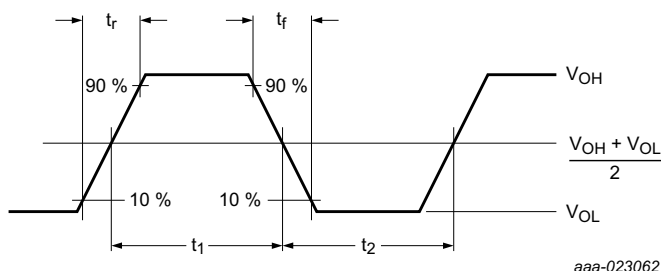

Fig 12. Definition of output and input transition times
- [5] Transition time and duty factor definitions are shown in Figure 12; $\delta = \frac{t_1}{t_1 + t_2}$